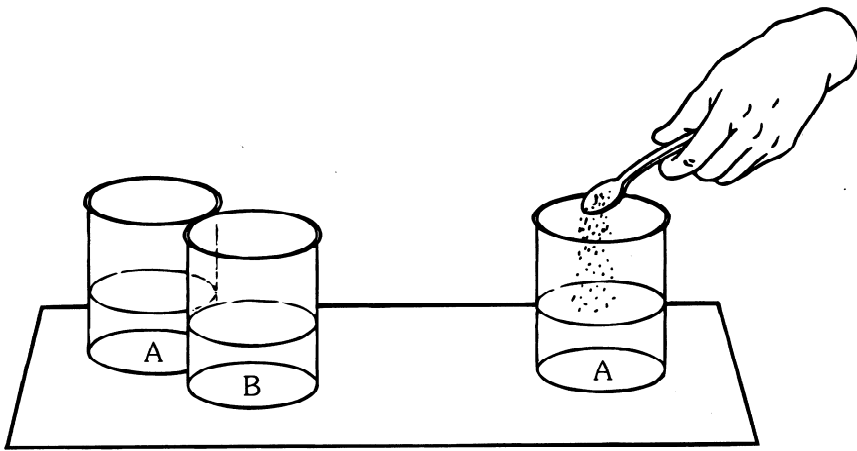

figure 1
3. Add 3 level teaspoons of aluminum sulfate to beaker A and stir. (See figure 1.)